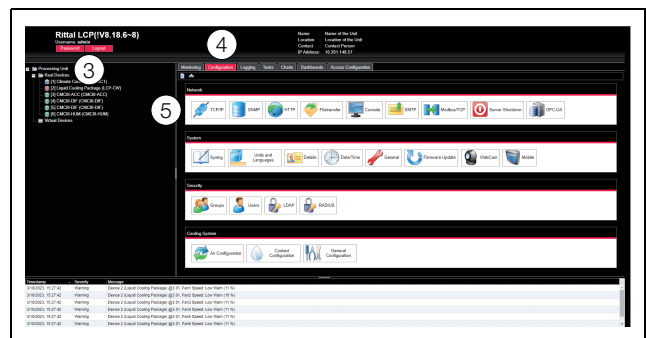

Fig. 94: Adjusting the TCP/IP settings
The overview window for the device will appear (fig. 94).
- In the left-hand section of the overview window (navigation area), click on the **Processing Unit** entry (fig. 94, item 3) and in the right-hand section (configuration area), click on the **Configuration** tab (fig. 94, item 4).
- In the group box Network, click on the TCP/IP button (fig. 94, item 5).